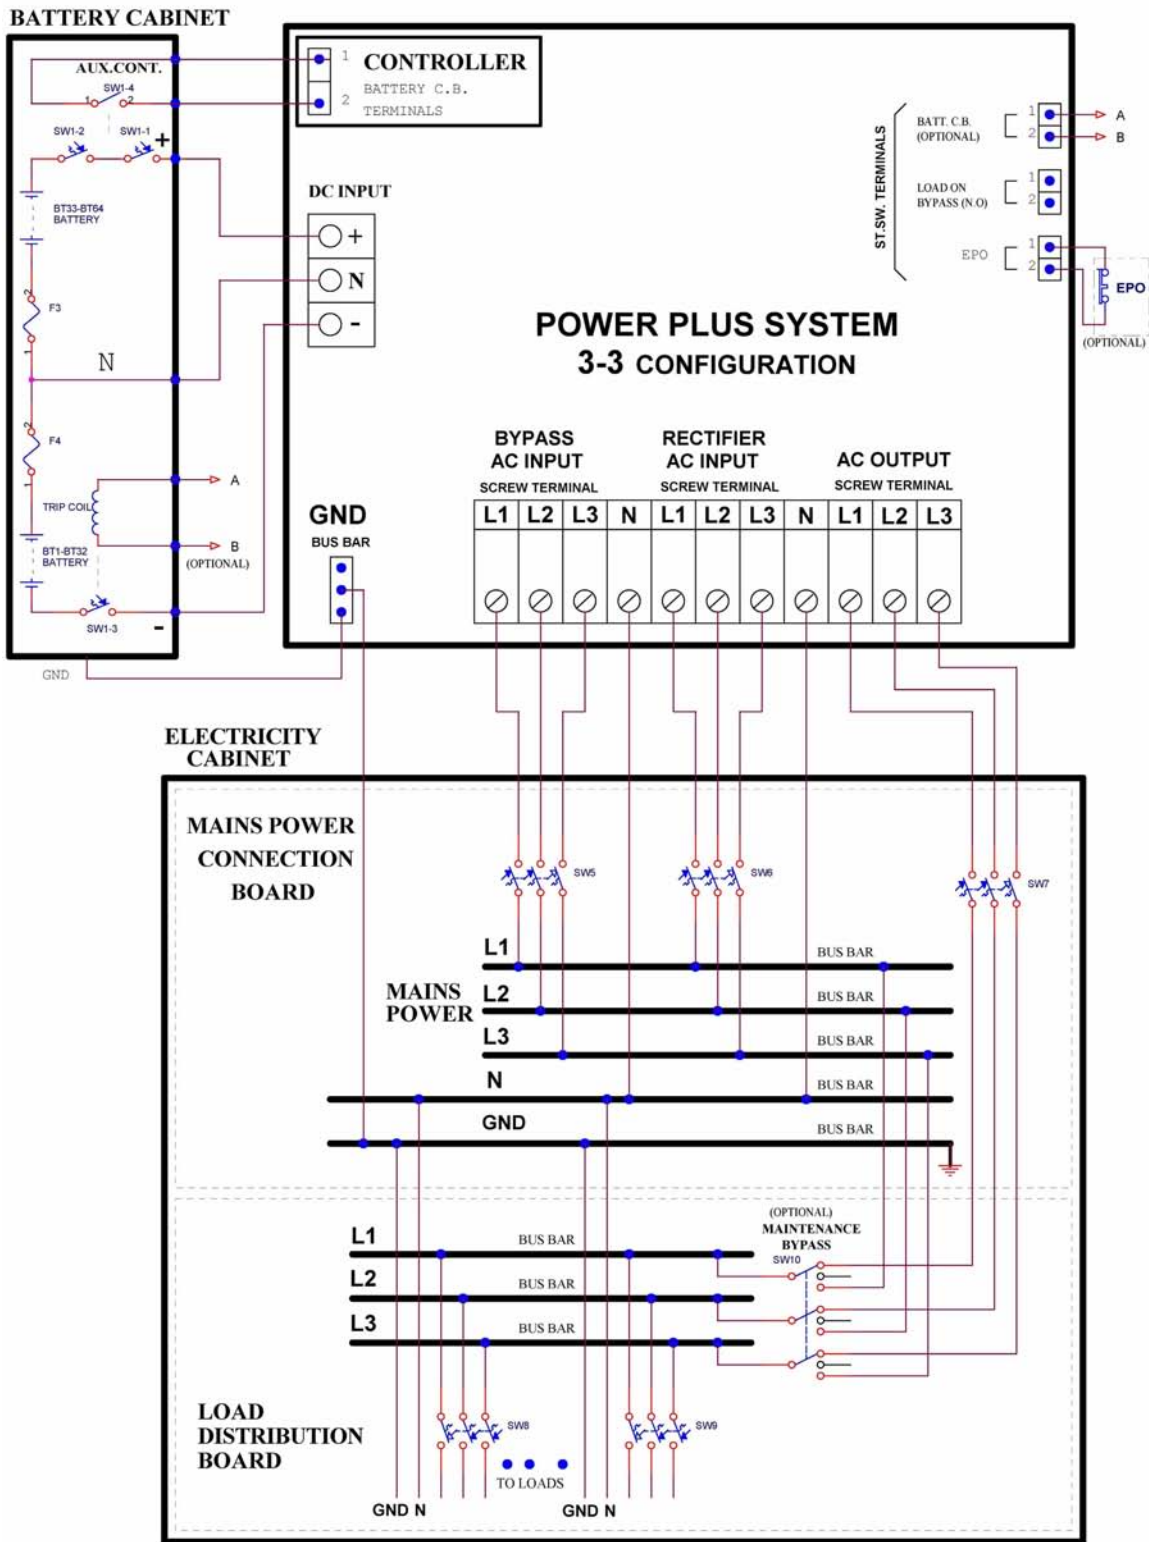
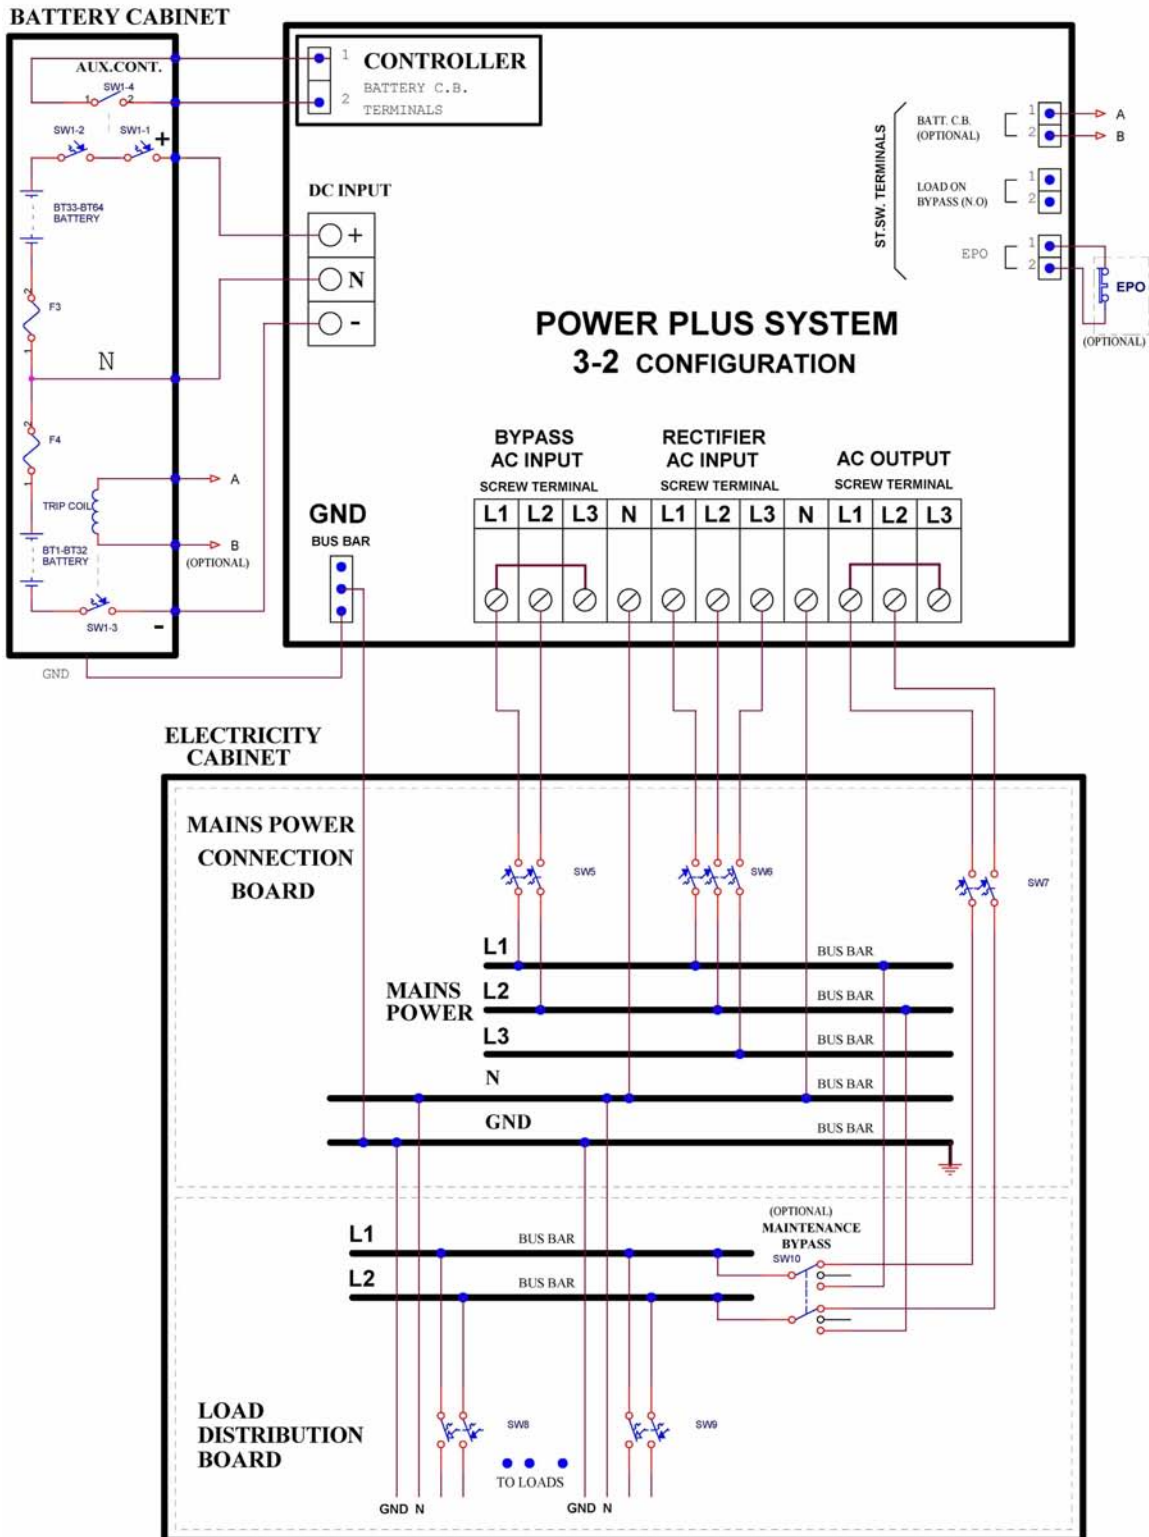
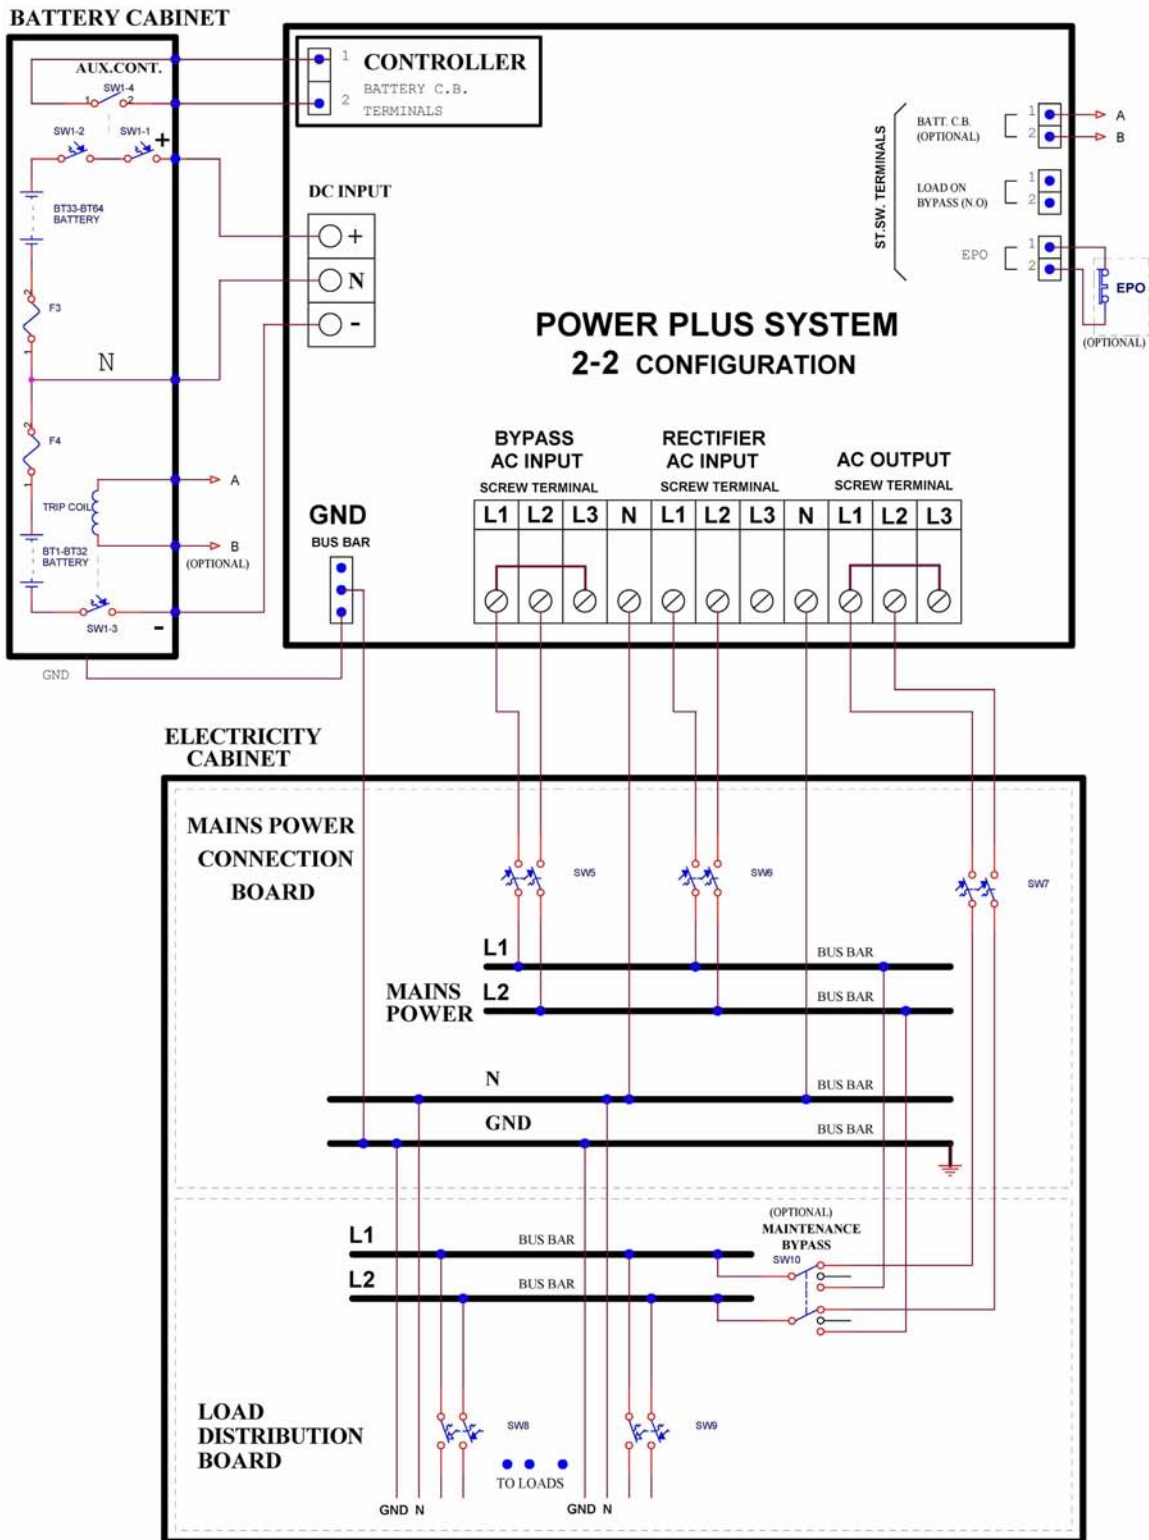

Figure 13: Connection diagram for 3-3 configuration
Figure 14: Connection diagram for 3-2 configuration
Figure 15: Connection diagram for 2-2 configuration
2.	Consult the appropriate connection diagram, depending on the phase configuration of the UPS: <ul style="list-style-type: none"> • For 3-3 configuration, see Figure 13 on page 27. • For 3-2 configuration, see Figure 14 on page 29. • For 2-2 configuration, see Figure 15 on page 31. Connect ground lines to busses according to markings as shown in the connection diagram. Verify secure connections.